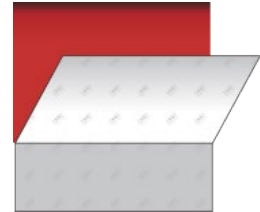

Figure 05
- › Remove the top hinge and continue removing the liner, depending on the surface pattern (cf. paragraphs below). (FIG. 05)